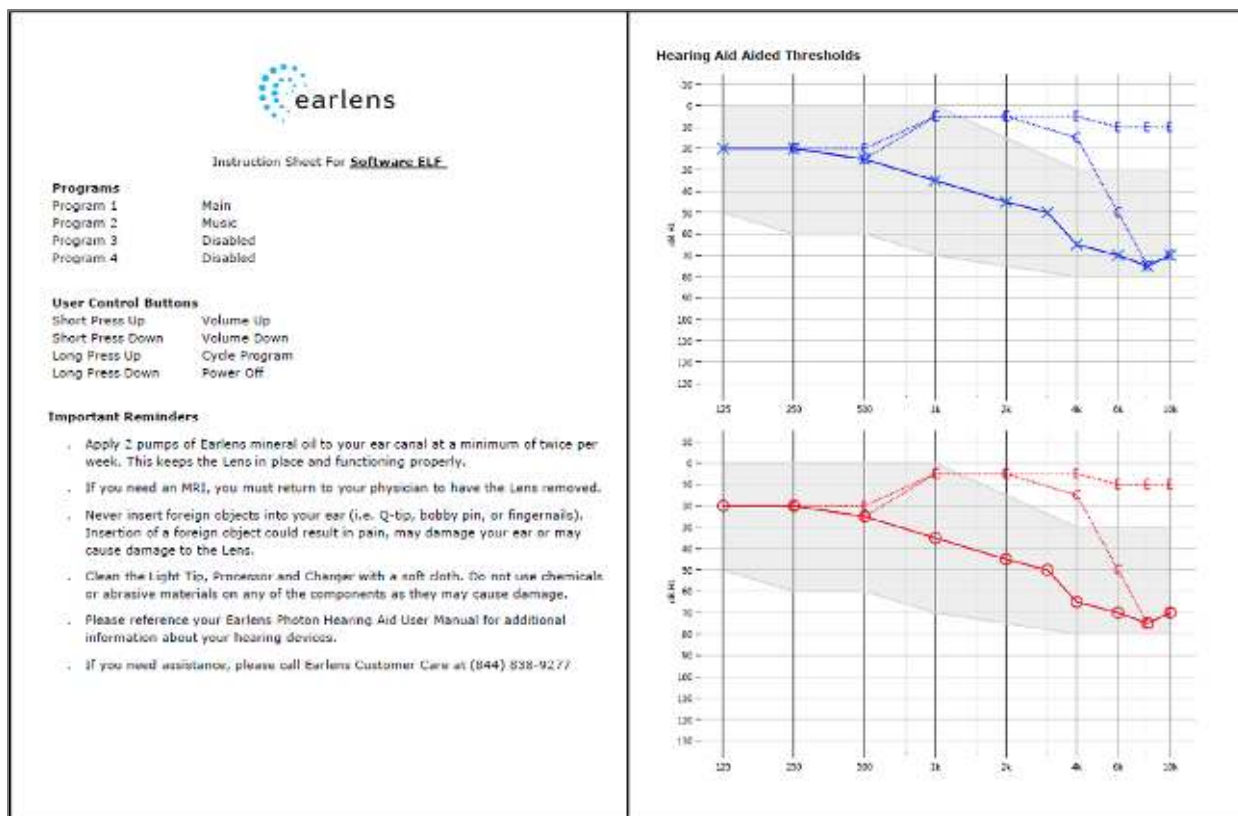

Figure 35. Patient Instruction printout
- d. View or print the data by going to the Summary screen and selecting “Print Patient Instructions” (Figure 35).